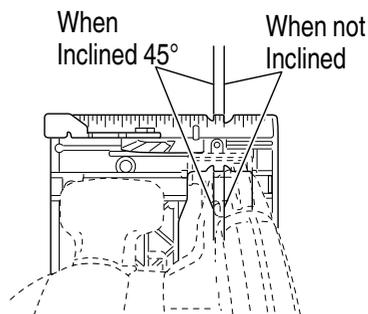
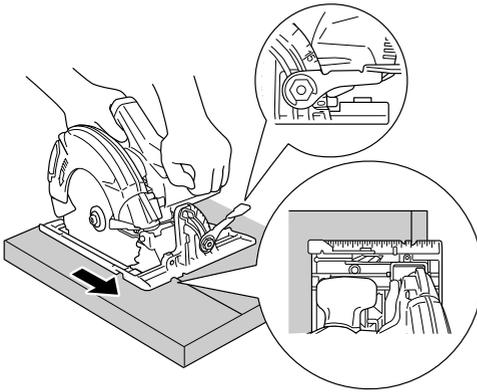
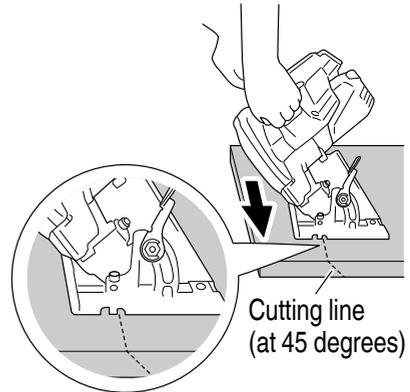

Fig. 30 <Top View>
Fig. 31
Fig. 32
- (1) Place the base on the material, then align the premarked line and the saw blade with the notch at the front of the base (Fig. 30).
- (2) When the base is not inclined, use the right side of the notch (Fig. 30, Fig. 31 on page 60).
If the base is inclined (45 degrees), use the left side of the notch (Fig. 30, Fig. 32 on page 60).
- (4) Tilt saw forward and align the notch (**Fig. 30 on page 59**) with the pre-marked guide line.
- (5) Release the lever. When the lower guard contacts the work piece surface, it will be in proper position to open freely when cutting is commenced.
- (6) Holding the saw in position, with the blade not contacting the work piece surface, pull the trigger.
- (7) After the saw has reached full speed, gradually lower rear end of the saw until its base rests on the work surface.
- (8) Advance saw along the cutting line up to the corner.
- (9) Release trigger and allow blade to stop completely before withdrawing the blade from the work piece.
- (10) Use a jig saw or hand saw to cut the corners out clean.
- (11) When starting each new cut, repeat as above.